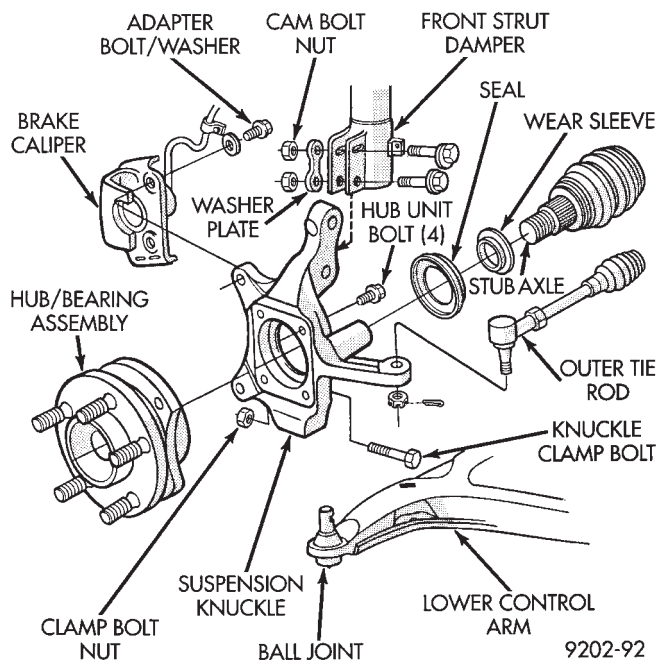
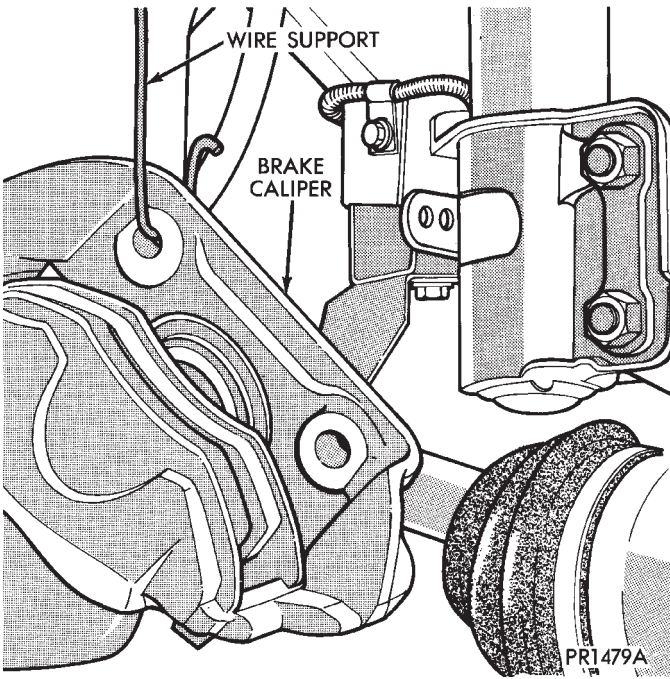

Fig. 1 Front Knuckle Assembly (Typical)
Fig. 4 Supporting Brake Caliper
The front suspension knuckle (Fig. 1) provides for steering control of the vehicle. Supports the brake caliper and absorbs the loads exerted during vehicle braking. It also supports the front (driving) hub and bearing and stub axle assembly.
(5) Remove the brake caliper adapter to steering knuckle attaching bolts and washers (Fig. 1). Remove the brake caliper and adapter from the steering knuckle and braking disc. Support brake caliper/adapter assembly using a wire hook and not by hydraulic hose (Fig. 4).